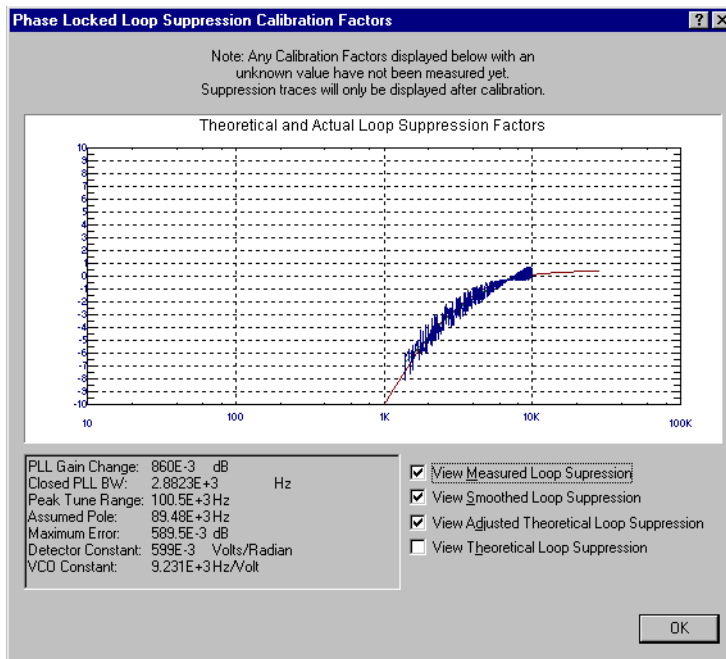

Figure 7-43 SelectingSuppressions
- 2 When the PLL Suppression Curve dialog box appears, select **View Measured Loop Suppression**, **View Smoothed Loop Suppression**, and **View Adjusted Loop Suppression**. See Figure 7-43.